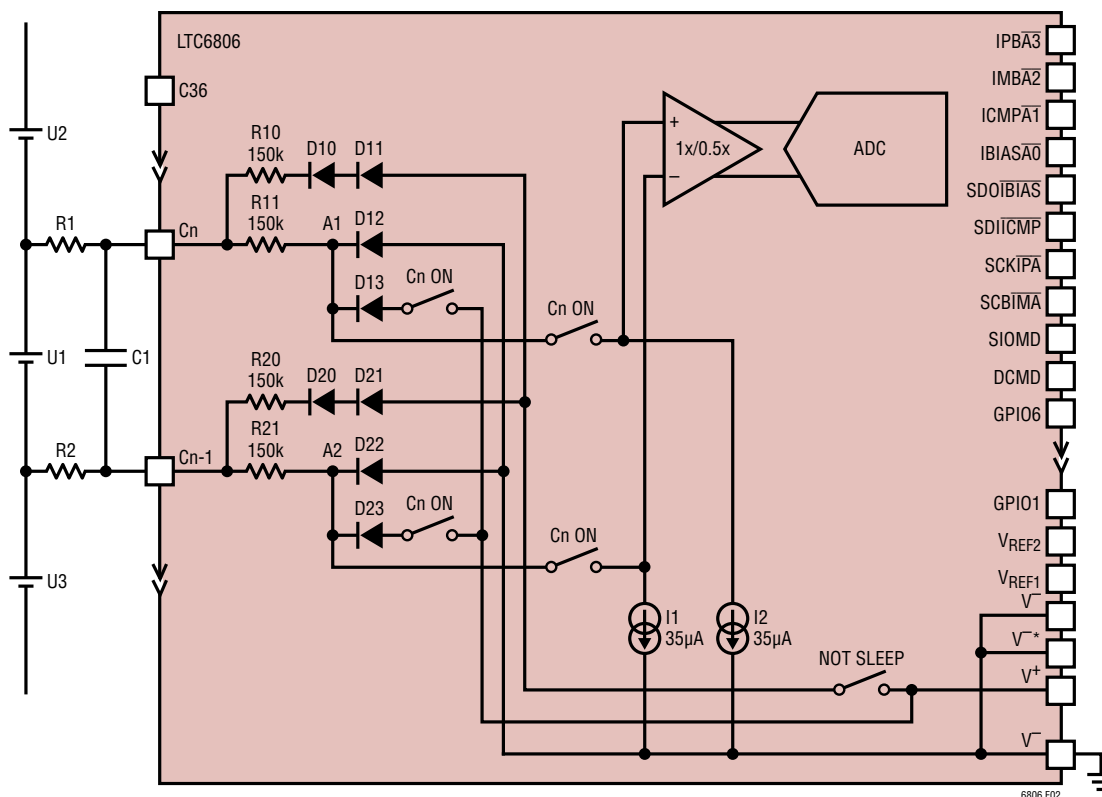

Figure 2. Input Stage Conceptual Block Diagram
The input stage of the LTC6806 consists of a common-gate stage with 150kΩ series resistance leading to the cell input pins. To accommodate negative common mode measurement, various clamp circuits are implemented at the front end, as shown in Figure 2.
1. When a cell is being measured, all switches in Figure 2 are closed. If the cell common mode voltage is above  $V^+$ , all diodes are reverse biased and the cell input sinks approximately 35μA bias current. If the cell common